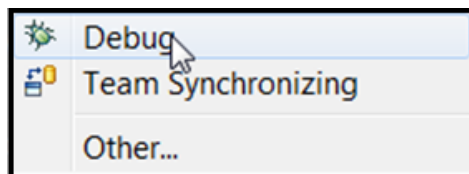

Figure 55: Debug Option
- Open the Debug Perspective by clicking the  button to the left of  button and selecting **Debug** from the menu (Figure 55).